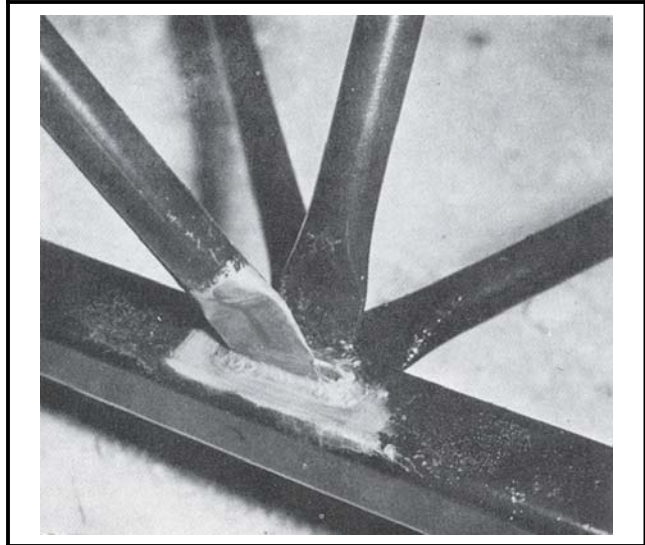

Figure 10
5. Clean area to be welded to bright clean metal (see Figure 10).